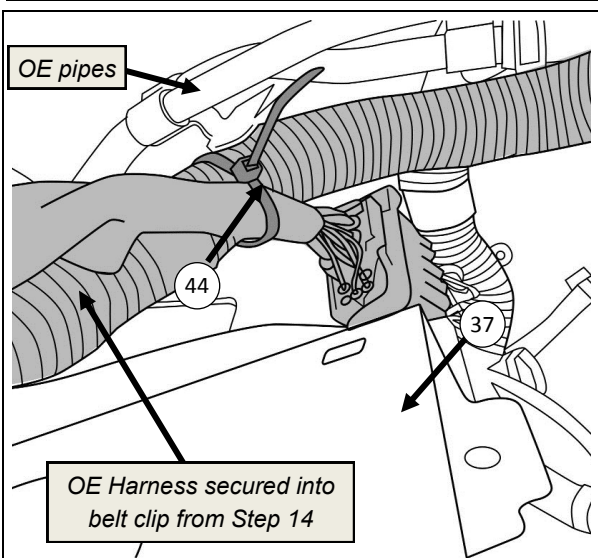

Figure 15: Secure Driver Harness
- Secure Driver harness to large OE Wire harness to prevent the wire from chafing on the COT tube with 1X Cable Tie (Item 44) in position shown in Figure 15.